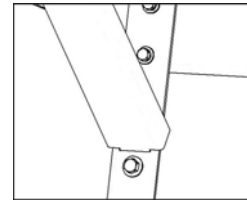

Figure 7
9. Use the 5/16 x 3/4" bolts with washers to fasten the **Angle Brace** to the side of the face (Figure 7)